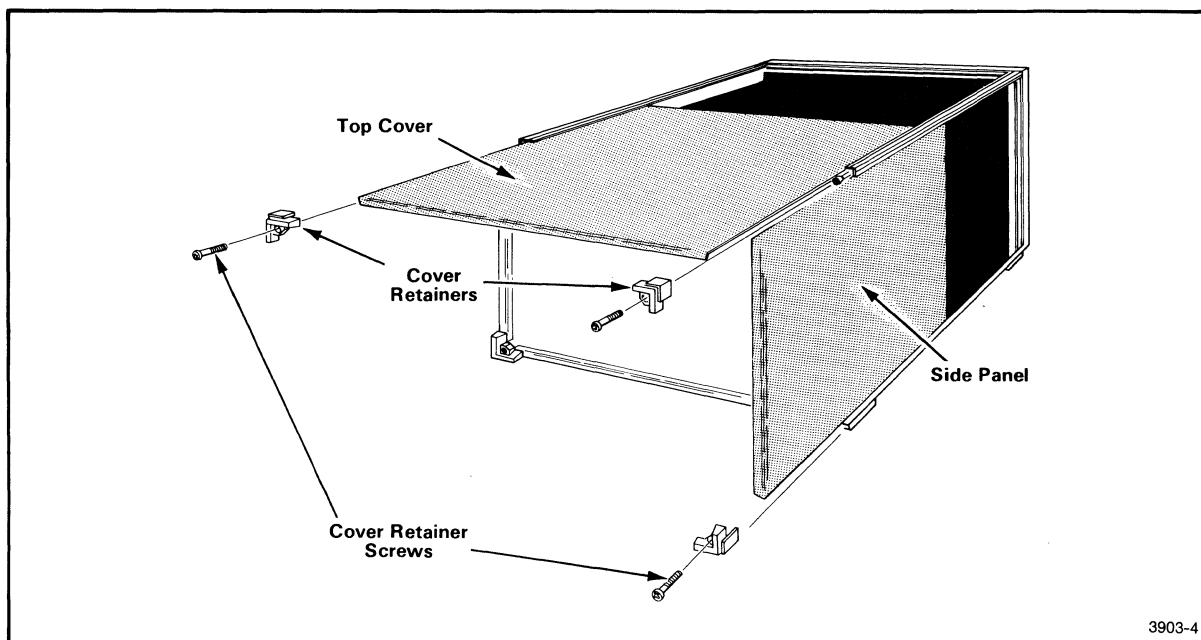

Fig. 2-1. Removing the cover retainers.
2. Remove the upper left, upper right, and lower right cover retainers. See Fig. 2-1.